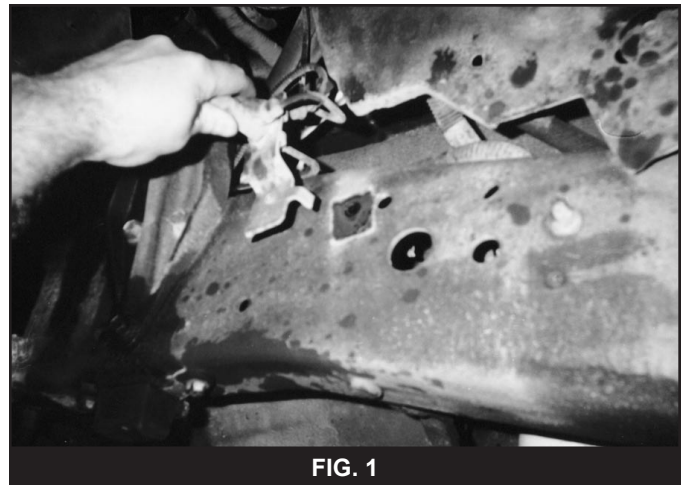

FIG. 1
3. With a large set of pliers, bend the OE brake line mounting tab on the frame out to 45 degrees. Remove the bracket from the frame and retain the OE fastener. (Fig 1)